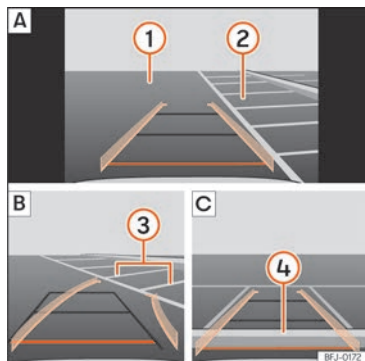

Fig. 192 Display on the Infotainment system screen.: parking with reverse assist.
Key to the **Fig. 192**:
- Place the vehicle in front of the parking space » **Fig. 192 2 [A]**.